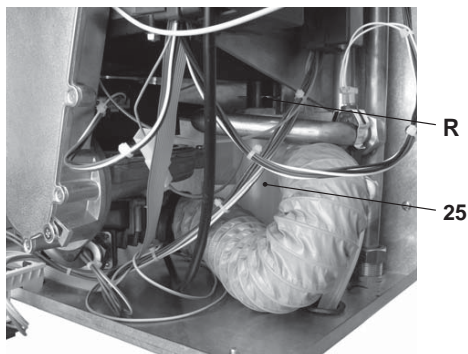

Fig. 9.8
The condensate drain pipe 25 (Fig. 9.8) does not require any particular maintenance but just check:
- Remove the forks R and remove the condensate trap 25 moving it downwards (Fig. 9.8).